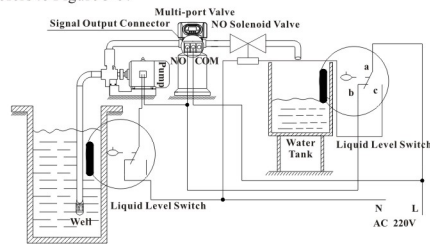

Figure 3-5 Wiring of Liquid Level Controller Controlling Inlet Pump
**Instruction:** For the system using well or middle-tank supplying water, switch of liquid level controller and valve together to control pump opening or closing. The wiring refers to Figure 3-5: